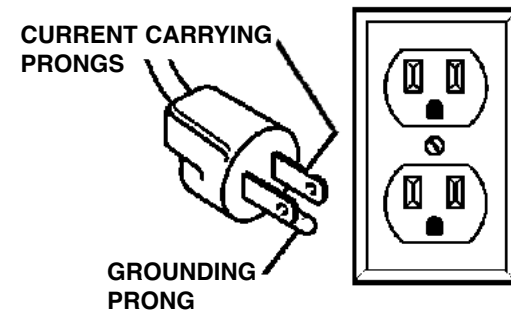

Figure 1
As received from the factory, your Scroll Saw is ready to run for 120V operation. This machine is intended for use on a circuit that has an outlet and a plug which looks like the one illustrated in Fig.1.
The pedal switch (A) Fig.4 is a convenient feature which allows you to control the scroll saw activation with your foot and keep both hands free to control your workpiece. Plug in the scroll saw power cord (B) into the socket (C) behind the pedal switch. Then plug in the pedal switch power cord (D) into a 120V outlet shown in Fig.1.